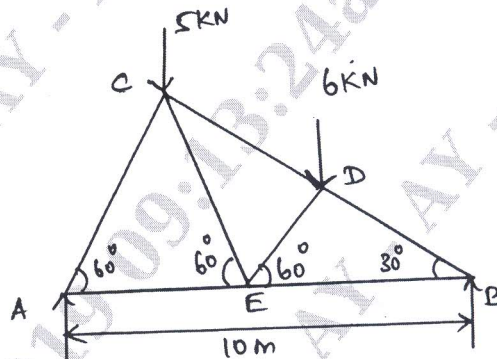

Fig.Q8(b)
b. A truss of span 10m is loaded as shown in the Fig.Q8(b) find the forces in all the members.